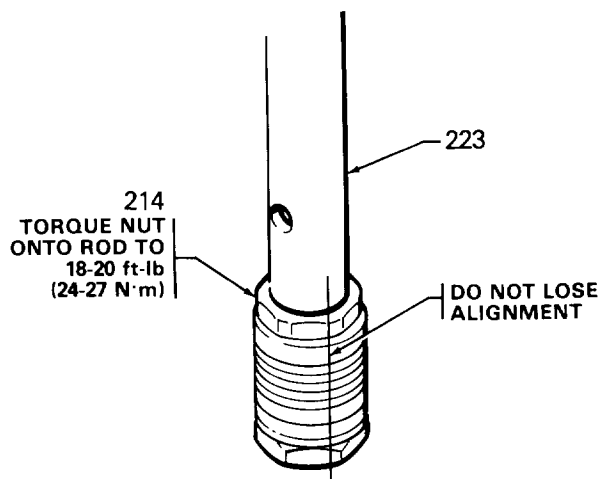

Fig 12
5. Place the ball on the piston valve. Apply *one drop* of thread locking compound to threads valve. Then hand tighten the valve assembly into the piston rod just until the nut meets the face of the rod. See Fig 12.